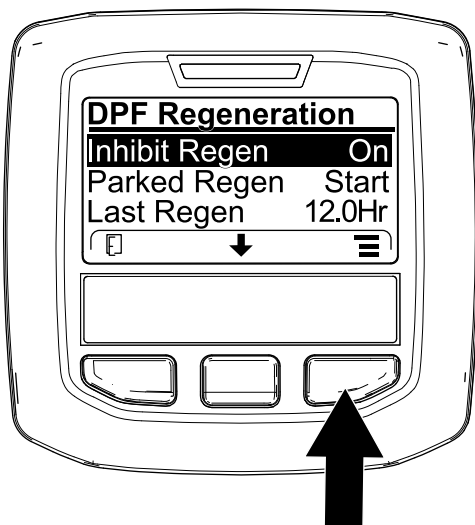
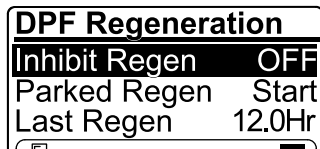

Figure 47
Figure 48
1. Access the DPF Regeneration menu, press the center button to scroll down to the INHIBIT REGEN option, and press the right button to select the Inhibit Regen entry (Figure 47).
2. Press the right button to change the inhibit regeneration setting from On to Off (Figure 47) or from Off to On (Figure 48).